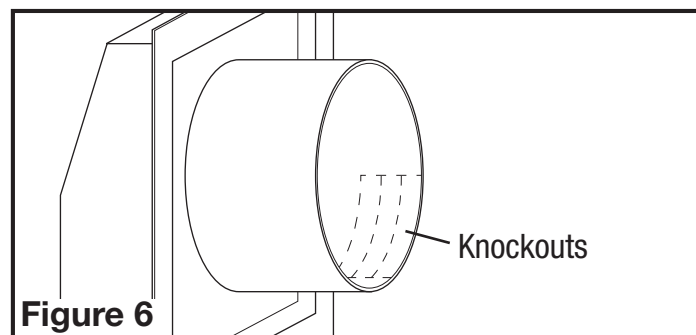

Figure 6
9. If the wall is less than 8" thick, remove one or more of the electrical compartment clearance knockouts located on the housing (**Figure 6**).